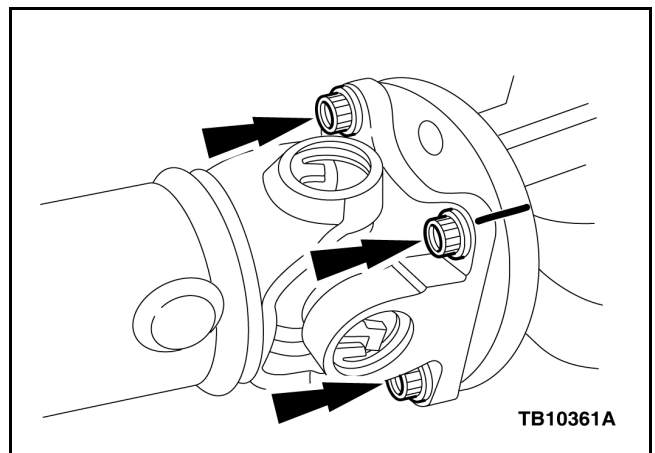
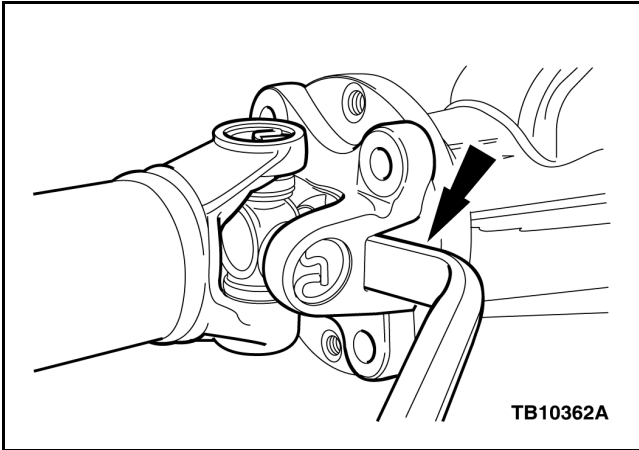

Figure 1 - Article 13-7-7
Figure 2 - Article 13-7-7
4. Index-mark the driveshaft flange and pinion flange for correct alignment during installation. (Figure 1)
5. Remove and discard the four (4) driveshaft flange bolts.
6. Disconnect the driveshaft centering socket yoke from the pinion flange. (Figure 2)
16. Position the driveshaft to the pinion flange and align the index marks. (Figure 1)
17. Install four (4) new driveshaft flange bolts and tighten to 103 N•m (76 lb-ft).